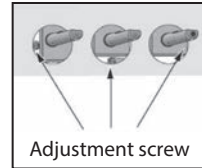

Fig. 2
3. Adjust the minimum flame height using a screwdriver. Depending on the appliance model, the adjustment screw is located either in the shaft of the gas valve or next to the gas valve (see Fig. 2).